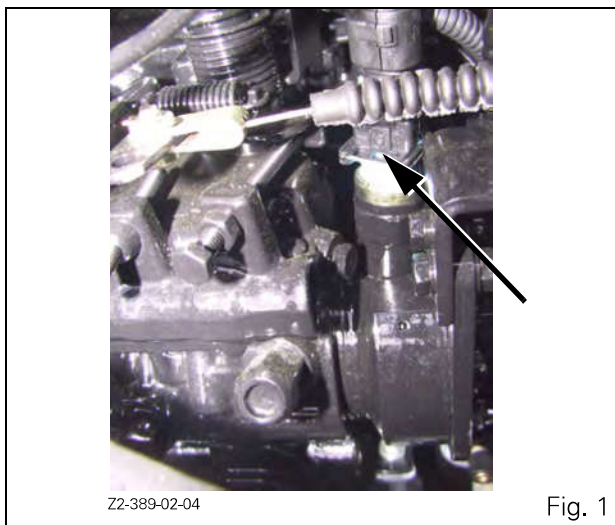

Fig. 1
**IMPORTANT:** After a long standstill, to ensure lubrication of the turbocharger bearings run the engine on the starter for about ten seconds. To prevent the engine from starting, disconnect the wire (Fig. 1) or take out the F32 fuse (models with electronic injection).